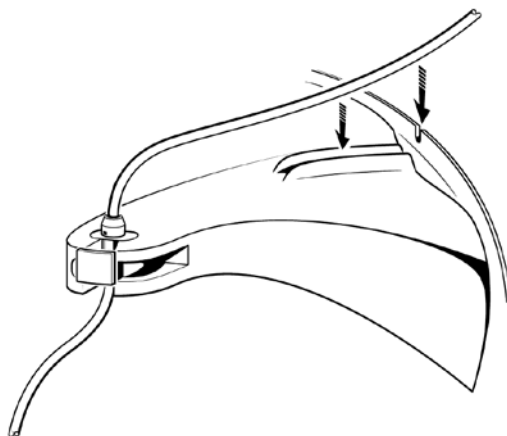

Figure 5. Place the tubing into the groove and through the notch in centrifuge ridge.
8. Press the tubing down into the groove on the support arm and through the notch in the centrifuge ridge (see Figure 5).